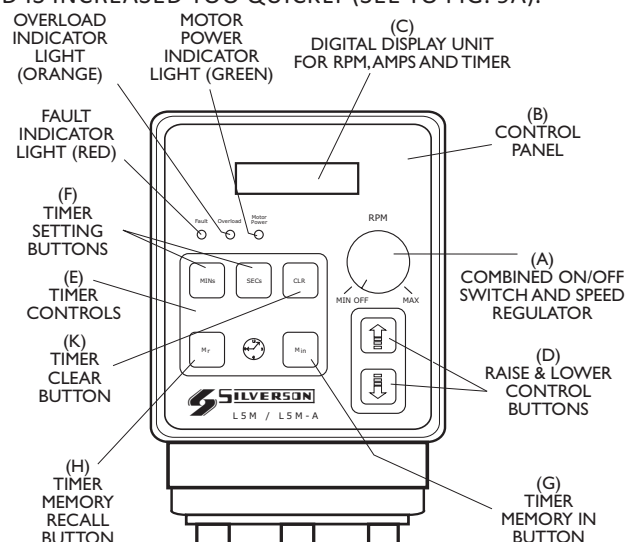

Fig. 8 Operating The LSM-A Mixer Assembly
5.1 OPERATION (Refer to Fig. 8)